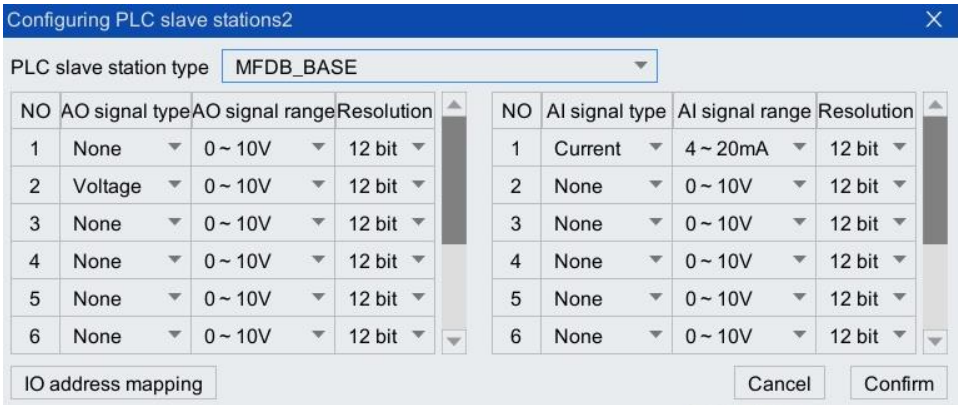

Figure 3-8 [Configure PLC slave-2] interface
Step3. In the [Configure PLC Slave Station-2] interface, select the matching "PLC Slave Station Type" based on the information in Table 3-1. Figure 3-8 shows the interface for selecting "MFDB\_BASE".
Step4. After completing the parameter configuration in Figure 3-8, click <Yes>, and a prompt dialog box will pop up (as shown in Figure 3-9). Click <Yes>, and after the power is turned off and restarted, the configuration takes effect. After taking effect, re-enter the [PLC Slave Configuration] interface, and the display will be shown in Figure 3-10.